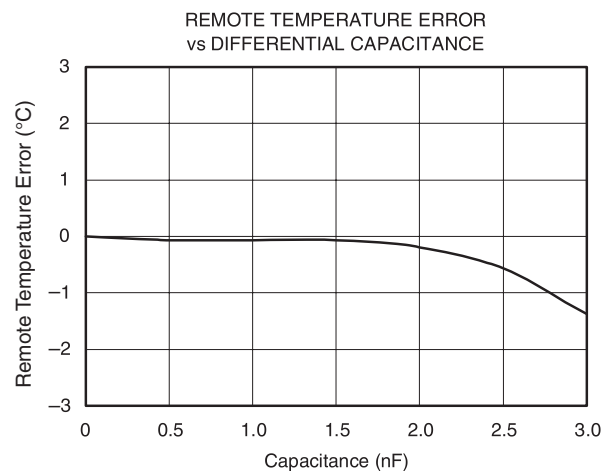

Figure 6.
- C_{DIFF} (optional) should be $<1000\text{ pF}$ in most applications. Selection of C_{DIFF} depends on specific application; see Filtering section and Figure 6, Remote Temperature Error vs Differential Capacitance.
The TMP411-Q1 tolerates differential input capacitance of up to 1000 pF with minimal change in temperature error. The effect of capacitance on sensed remote temperature error is illustrated in typical characteristic Remote Temperature Error vs Differential Capacitance (Figure 6).